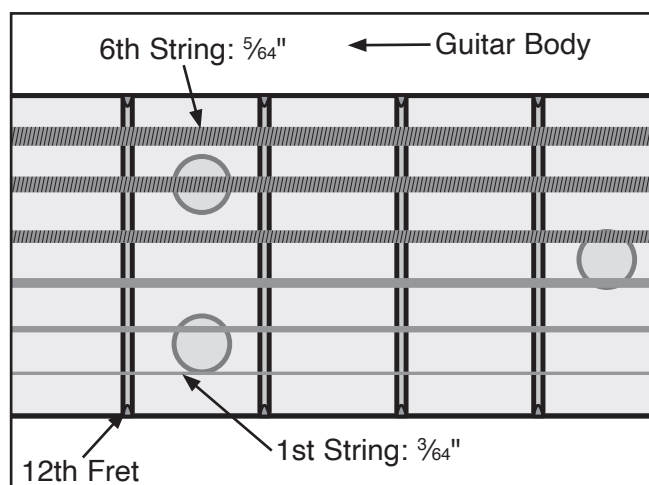

Figure 33. Correct 12th fret string heights.
2. Check string heights of 1st and 6th strings at 12th fret. Measurements should be $\frac{3}{64}$ " at 1st string and $\frac{5}{64}$ " at 6th string (see **Figure 33**).